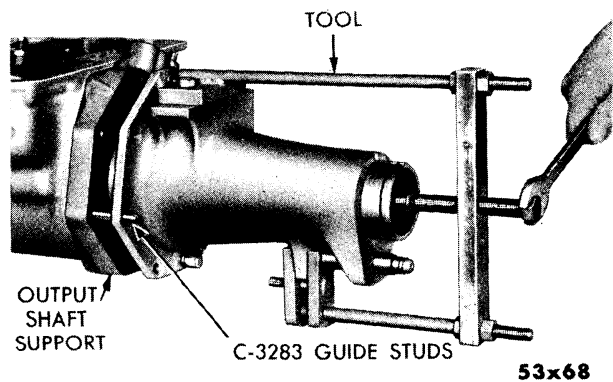

Fig. 53—Removing Transmission Extension Housing Using Tool C-3282
- (16) Install guide studs, Tool C-3283, and attach puller, Tool C-3282. Pull extension housing from output shaft support assembly and remove gasket. (See Fig. 53.)
- (17) Remove puller, Tool C-3282, from extension housing.